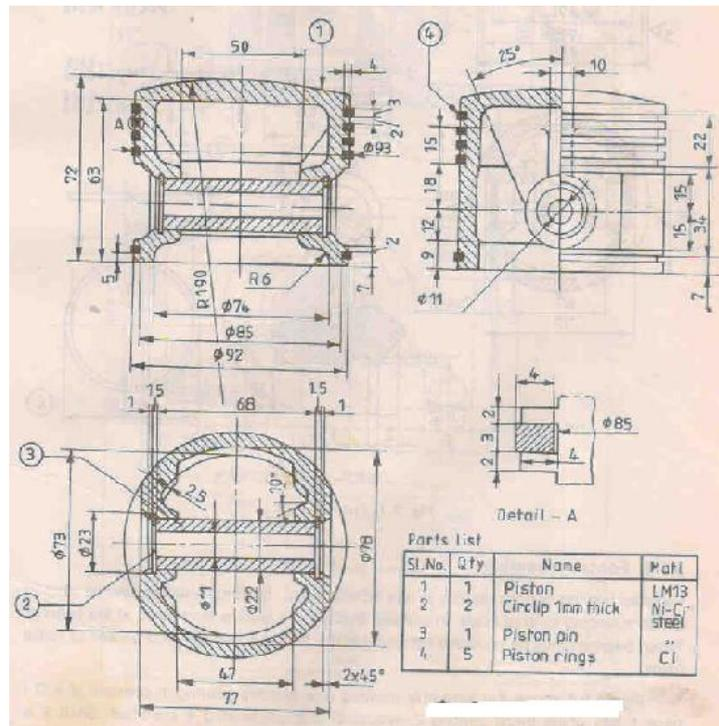

Figure 5 Component details of a piston
1. Draw the detailed drawing including the dimensional tolerance, geometrical tolerance and surface finish for the piston, piston pin given in the figure5.